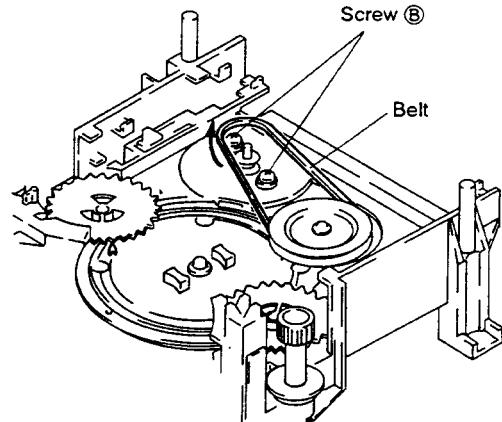

Fig. 1-6
- (1) Remove the tray I. (Refer to 1.1, REMOVAL OF TRAY I)
- (2) Set the tray II to the OPEN position. (Refer to 1.2, REMOVAL OF TRAY II (1))
- (3) Remove the belt and two screws Ⓑ, shown in Fig. 1-6.